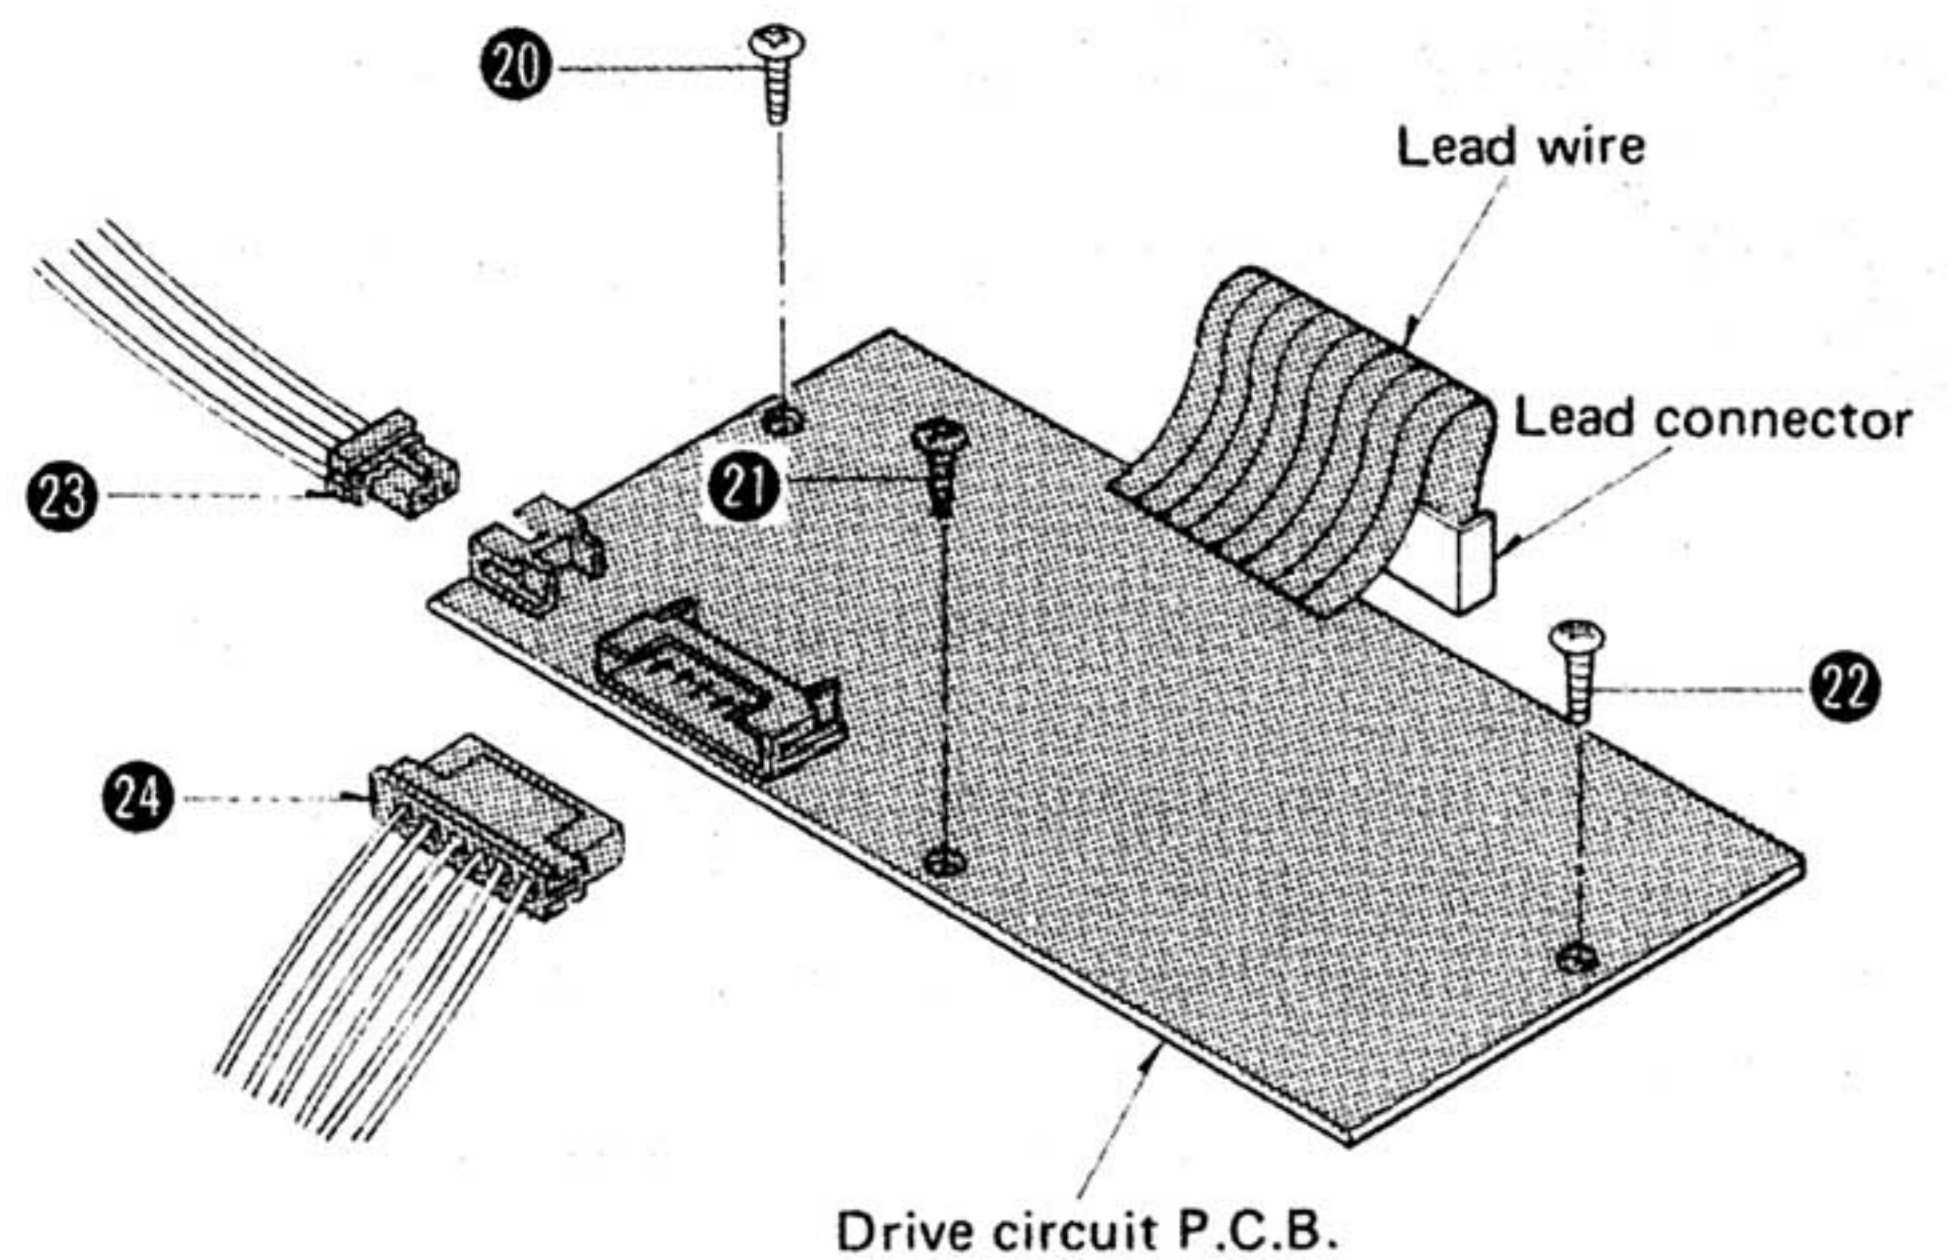

Fig. 4
3. Remove the drive circuit P.C.B. setscrews ②① ~ ②② and connectors ②③ and ②④. Then the drive circuit P.C.B. can be removed. (See Fig. 4)